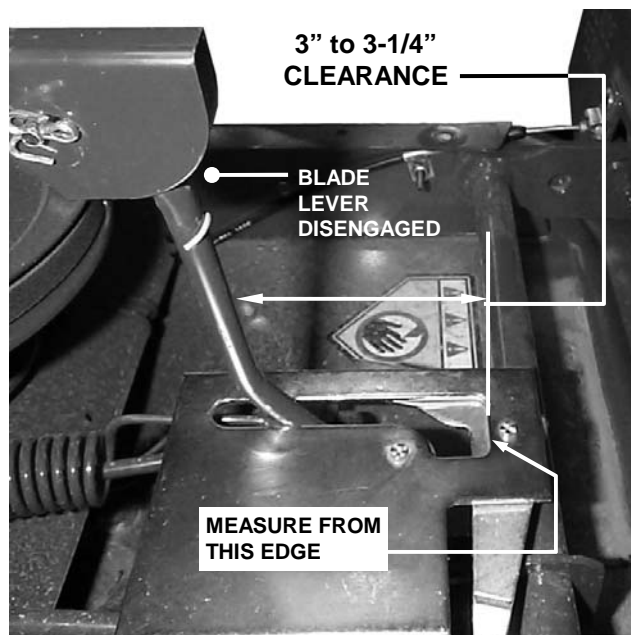

FIGURE 4.2
The automatic Blade Brake should stop the blades within 3 seconds anytime the blades are disengaged by moving blade lever to the "OFF" position or by releasing the Blade Pedals. Check this by disengaging the Blade Lever as shown in Figure 4.2. Perform the following measurement and adjustment.
1. With the blade engagement lever disengaged, measure the distance between the front of the blade lever and the edge of the latch plate. The dimension should be 3" to 3-1/4" clearance between lever and edge of plate. See Figure 4.2. If the dimension is incorrect go to step 2.